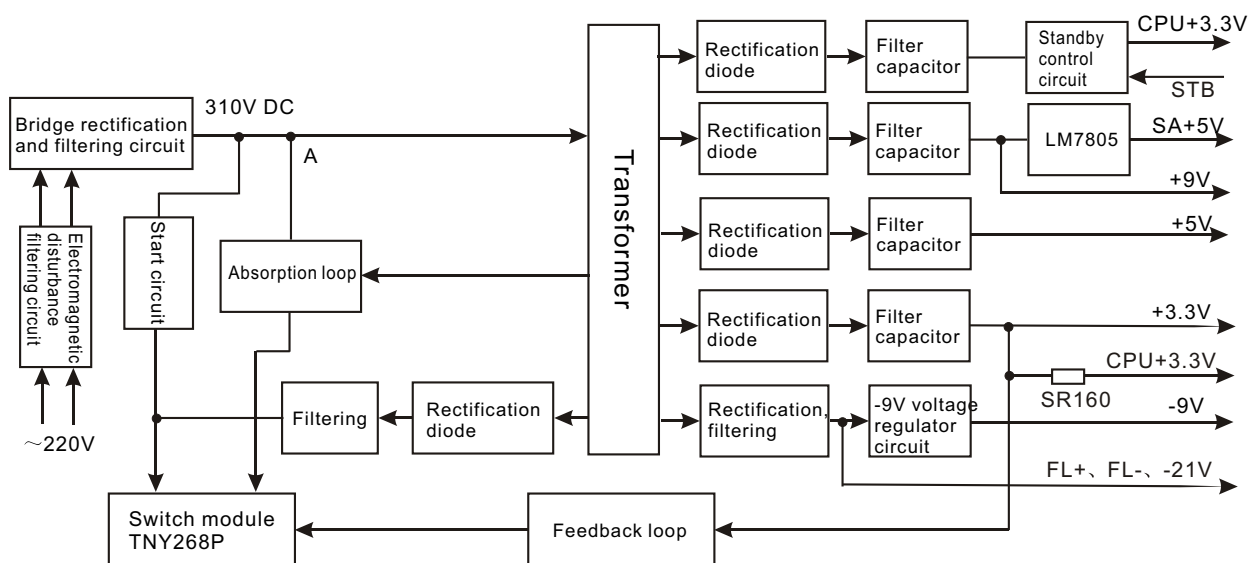

Figure 3.2.1.1 Power circuit block diagram
1. Power circuit block diagram is shown as the following figure 3.2.1.1: